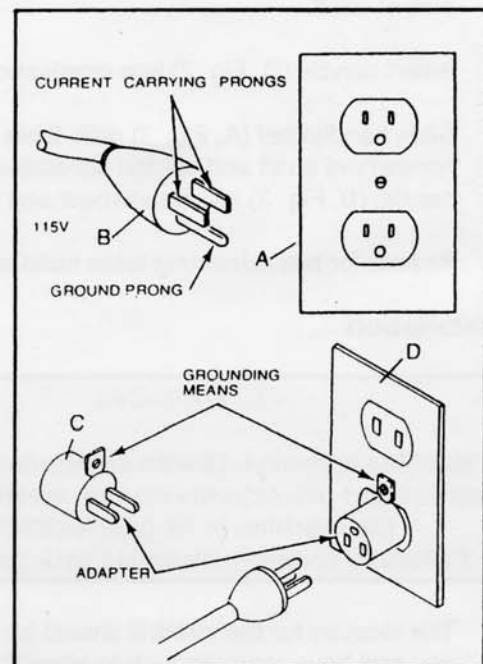
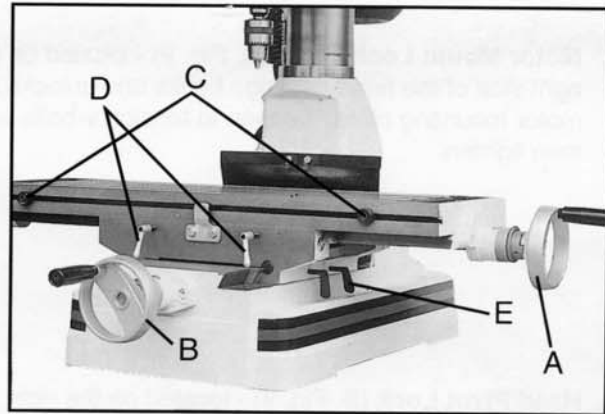

Fig. 5
Fig. 6
The JMD-15 is rated at 115/230V and comes from the factory prewired at 115V. This mill/drill comes with a plug designed for use on a circuit with an outlet that looks like (A) in Fig. 5. The JMD-15 has a grounding prong as illustrated in (B). A temporary adapter (C) may be used to connect the plug to a two pole receptacle (D) if a properly grounded outlet is not available. The temporary adapter should only be used until a qualified electrician can install a properly grounded outlet. The green colored plug must be securely fastened to the cover plate screw.
Longitudinal Hand Wheels (X-axis)(A, Fig. 6) - located on either side of the table. Moves table side to side.
Cross Feed Hand Wheel (Y-axis) (B, Fig. 6) - located on the front of the base. Moves table toward or away from the column.
Adjustable Table Stops (C, Fig. 6) - located on table front. Adjust to stop table at any setting along the longitudinal axis.
Table Locks (D & E, Fig. 6) - longitudinal table (D, Fig. 5) locks are located on front of the table. Cross-feed table locks (E, Fig. 6) are located on the right side under the table. Turn clockwise to lock .